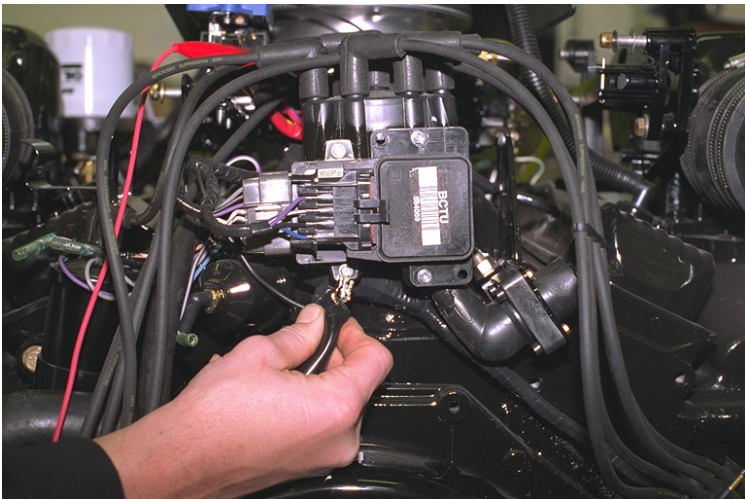

Figure 32 Ground Connection
- 4) Connect the BLACK test lead to a good engine ground location. The lower mounting stud for the Thunderbolt V module, as shown in Figure 32, is a suitable location for this lead.